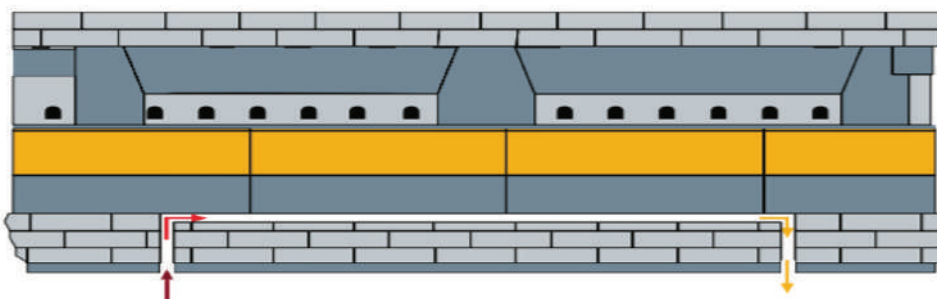

Figure 4.20
2.6.3 Indirect bottom cooling: Forehearth glass also can be cooled by bottom cooling as shown in Figure 4.20. This type of cooling is generally